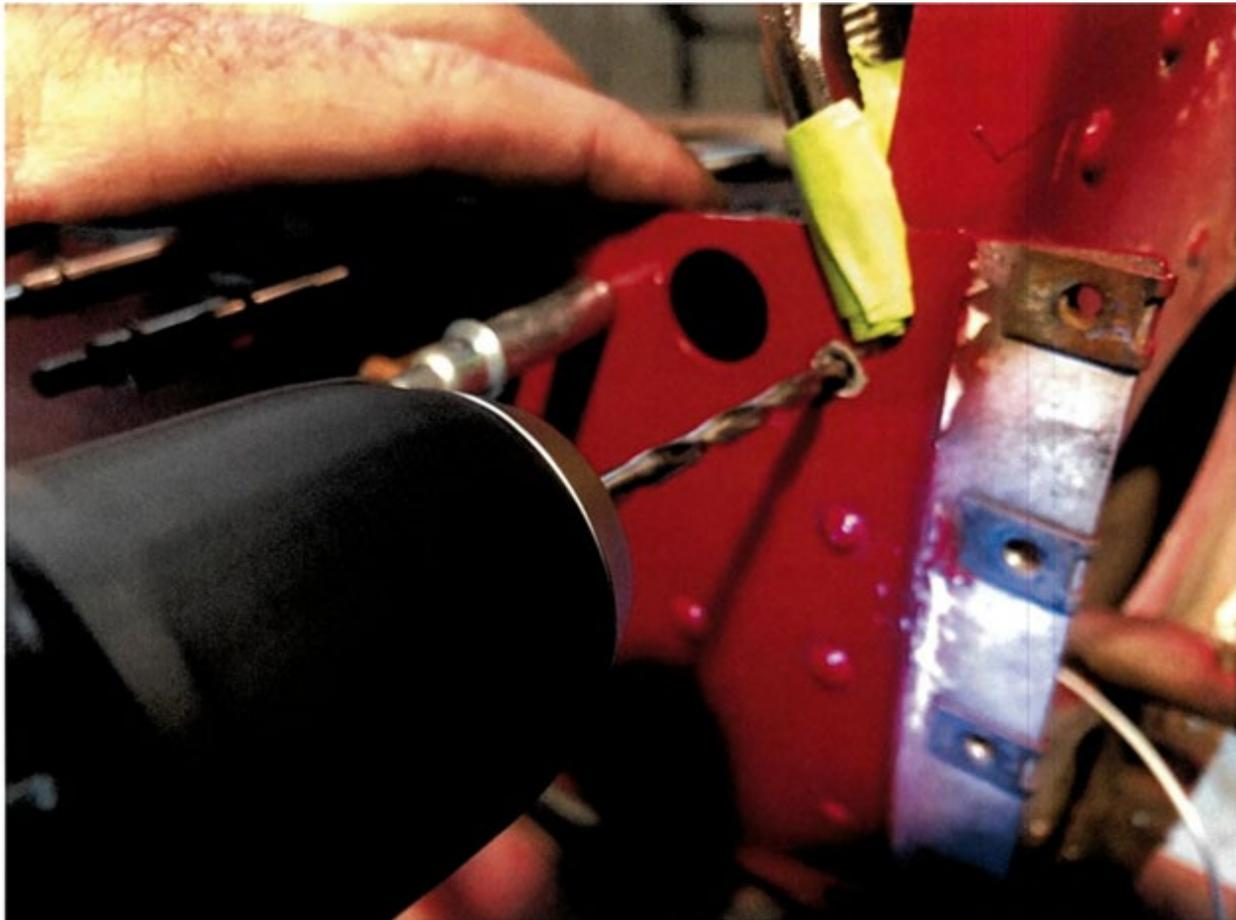

Figure 21: Drill aft tail cone reinforcement hole
- Using a #30 drill bit, match drill the aft hole in the tail cone reinforcement splice. After match drilling with a #30 drill bit. Run the supplied #19 drill bit through the aft hole as shown in Figure 21.